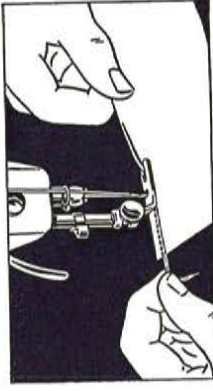

Fig. 37. Hemming Edge of Material and Pulling Back Threads While Sewing
4. Lower hemmer and begin to sew, slightly pull threads back while sewing. Keep mouth of hemmer full to produce a smooth, even hem, as shown in Fig. 37.